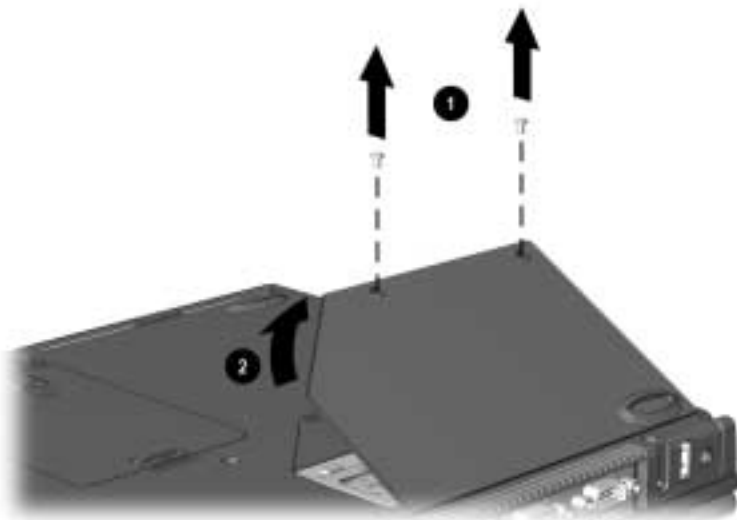

Figure 5-3. Removing the Mini PCI Slot Cover
3. Remove the two screws ❶ that secure the mini PCI slot cover to the base enclosure (Figure 5-3).
4. Lift up the front edge of the mini PCI slot cover and swing the cover back ❷.